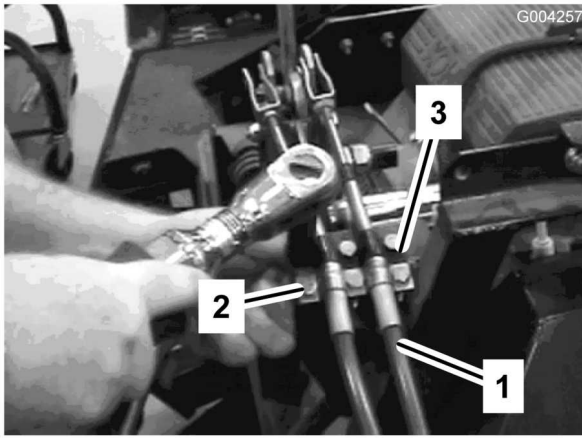

Figure 3
6. Remove the bolts securing the shift cables and clamps to the machine and move the shift cable assembly rearward, out of the way (Figure 3). Retain all fasteners and clamps.